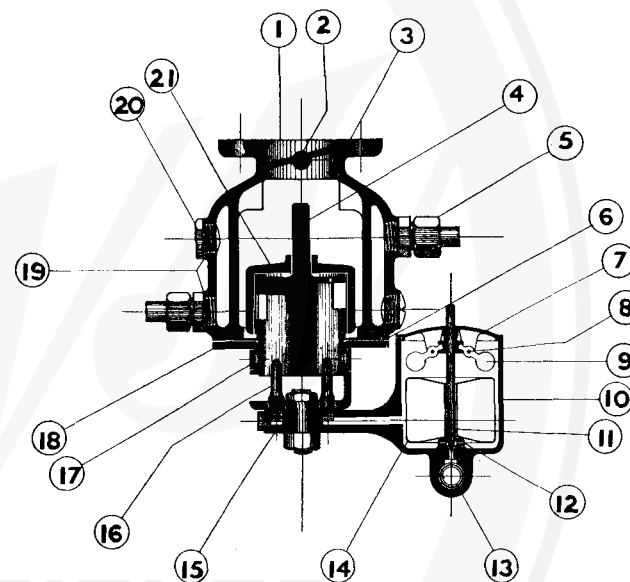
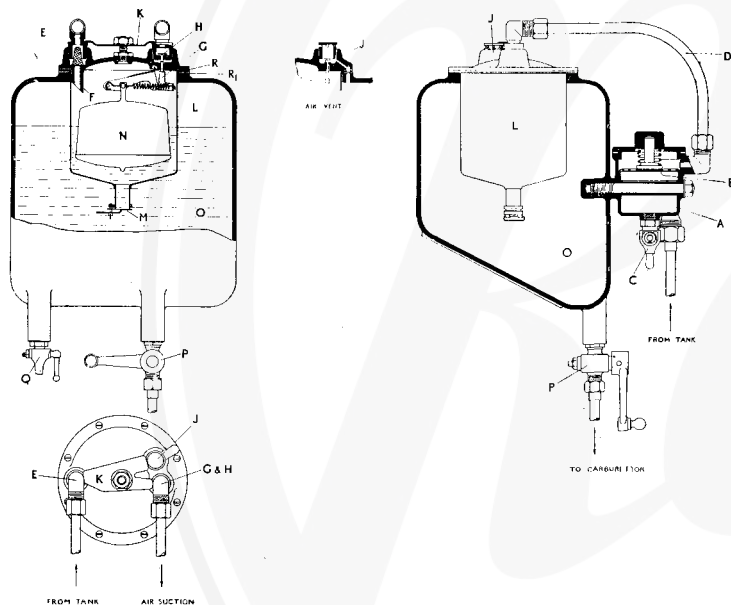

Fig. 7. Description of Carburettor.
Fig. 8. Description of Autovac.
*The Carburettor.* Fig. 7. The selection of carburettor in the 21 h.p. Lanchester Car is the outcome of exhaustive Trials on the Test bench and on the road. All the leading types have been tried and the one selected as being most suitable is the Smith 4-jet Carburettor. It is a well-known type and requires no introduction.
Petrol is supplied to the Float Chamber Fig. 7 by gravity from a vessel on the Dashboard within which is contained the Autovac Fig. 8 by means of which the fuel is raised from the tank to the gravity vessel. The Autovac consists of a chamber having an outlet valve, an air valve, and a vacuum valve, the two latter being actuated by a float within the vacuum chamber, and the outlet valve is automatic. The vacuum valve is connected by a small bore pipe. The